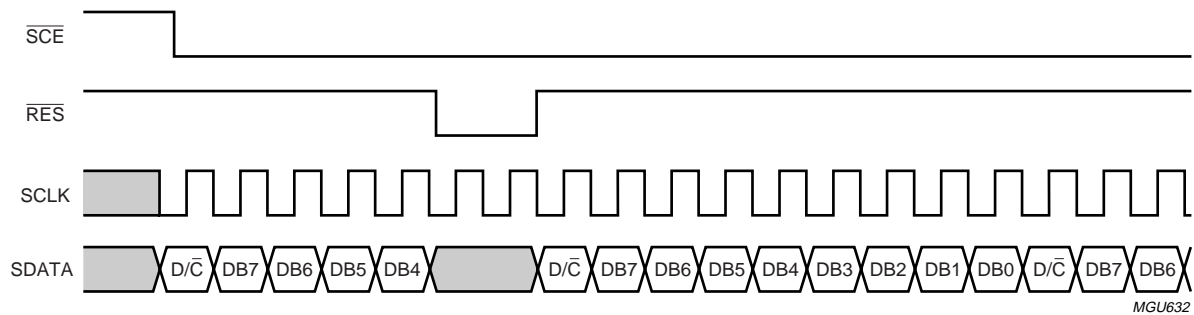

Fig.23 Serial interface (3-line), write mode - interrupted by reset (\overline{RES}).
- A reset pulse with \overline{RES} interrupts the transmission and the data being written into the RAM may be corrupted. The registers are cleared. If \overline{SCE} is LOW after the rising edge of \overline{RES} , the serial interface is ready to receive the $\overline{D/C}$ -bit of a command/data byte (see Fig.23).